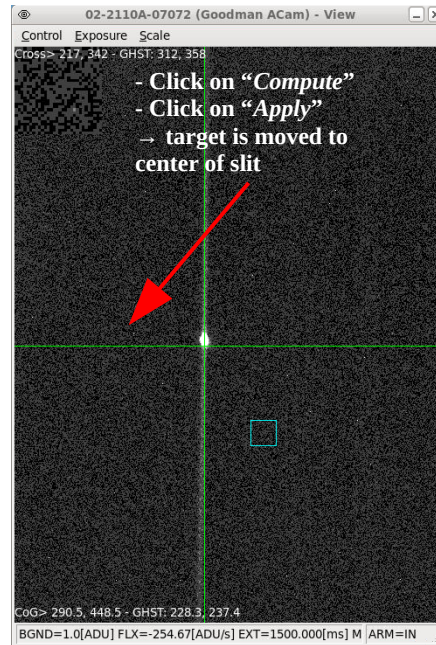
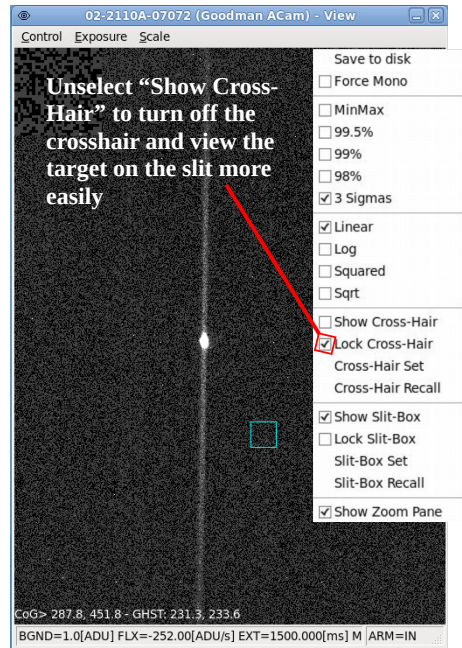

Figure 7. Right: Target on slit
Figure 8: Target centered on the slit.
Clicking on your target will place the blue box on it as shown in Figure 7, right; as opposed to the crosshair, which will be at the exact mouse position, the cyan Slit-Box uses a centroiding algorithm to determine the position of the target. The centroid coordinates are shown in the lower left corner of the GACAM viewing window (Fig. 8), first in GACAM coordinates, then in Goodman HST coordinates.
- Now bring up the **Control** menu, and select the **Offsets** option (Fig. 7, left). You will see the **Offsets** sub-window as shown. Click on the **Compute** button. The fields will display the Instrument Position Angle (IPA), and the calculated offsets (in arcsec) in the E-W and N-S directions, between the current (locked) position of the crosshair (which is the reference) and the centroid of the cyan Slit-box. Click on the **Apply** button to send these offsets to the telescope Control System (TCS). Advise the Telescope Operator so he keeps track of the guide star when the offset is applied. You will see the target move and end up centered on the crosshair, as shown in Figure 7, right. You can more easily double check your object is correctly centered on the slit by removing the crosshair, as shown in Figure 8 (unselect the **Show Cross-Hair** option in the pop-up menu).